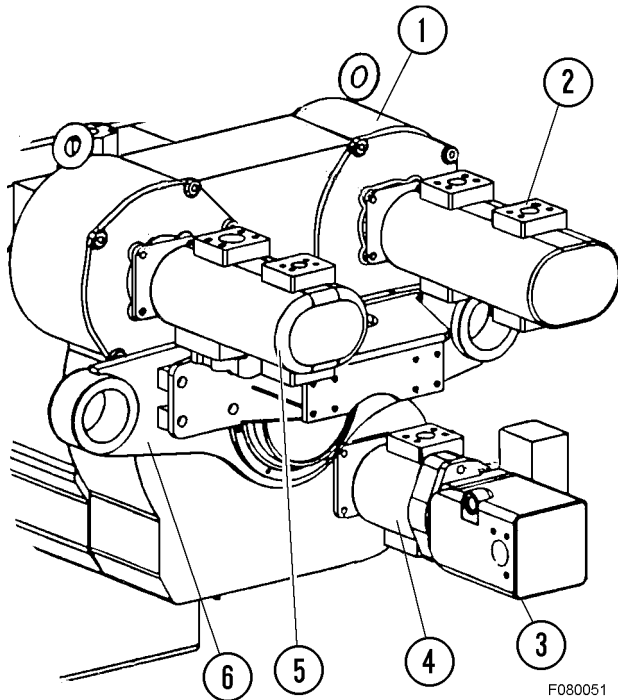

FIGURE 8-1. HYDRAULIC PUMPS
3. Remove hydraulic pumps (2, 3, 4, & 5, Figure 8-1). Remove trunnion (6).